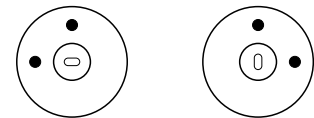

fig 2. Bracket Positions
Position brackets (C) on wall with grub screw holes as shown in figure 2 for maximum tolerance and rigidity before tightening screws (D).